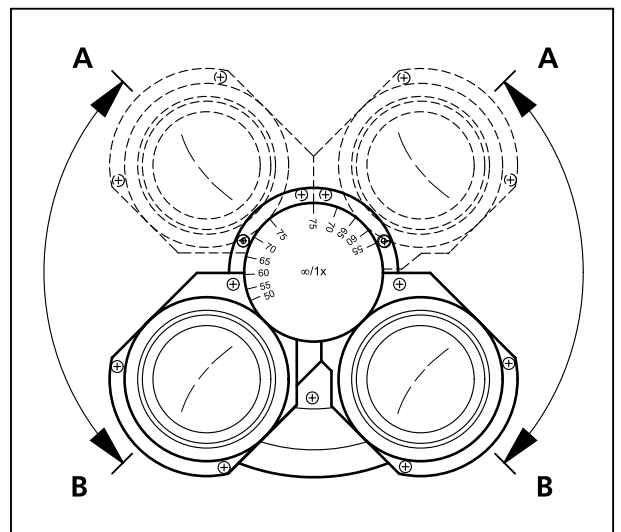

Fig. 19 Adjusting the viewing height
- Swivel the eyepiece tubes upward (Fig. 19/A) or downward (Fig. 19/B) to adjust the viewing height to your individual requirements.